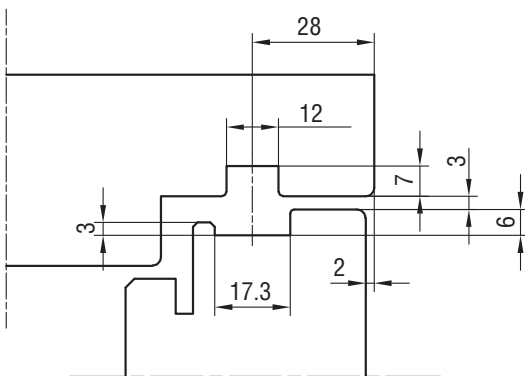

FIG. 2. EXAMPLE WOOD PROFILE
1. SIDE FRAME AND SIDE SASH IS MADE WITH IPA SYSTEM GROOVES. SEE FIG. 2.